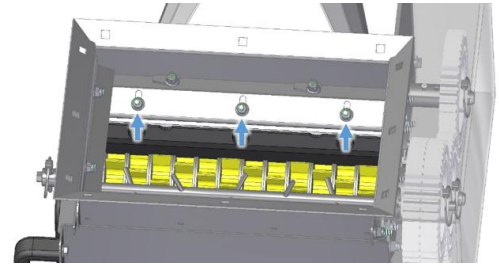

Figure 36
- The three nuts (see Figure 36), with which the support plate is fastened on the metering unit, are loosened. The top brush and a scraper lip are installed on this support plate.